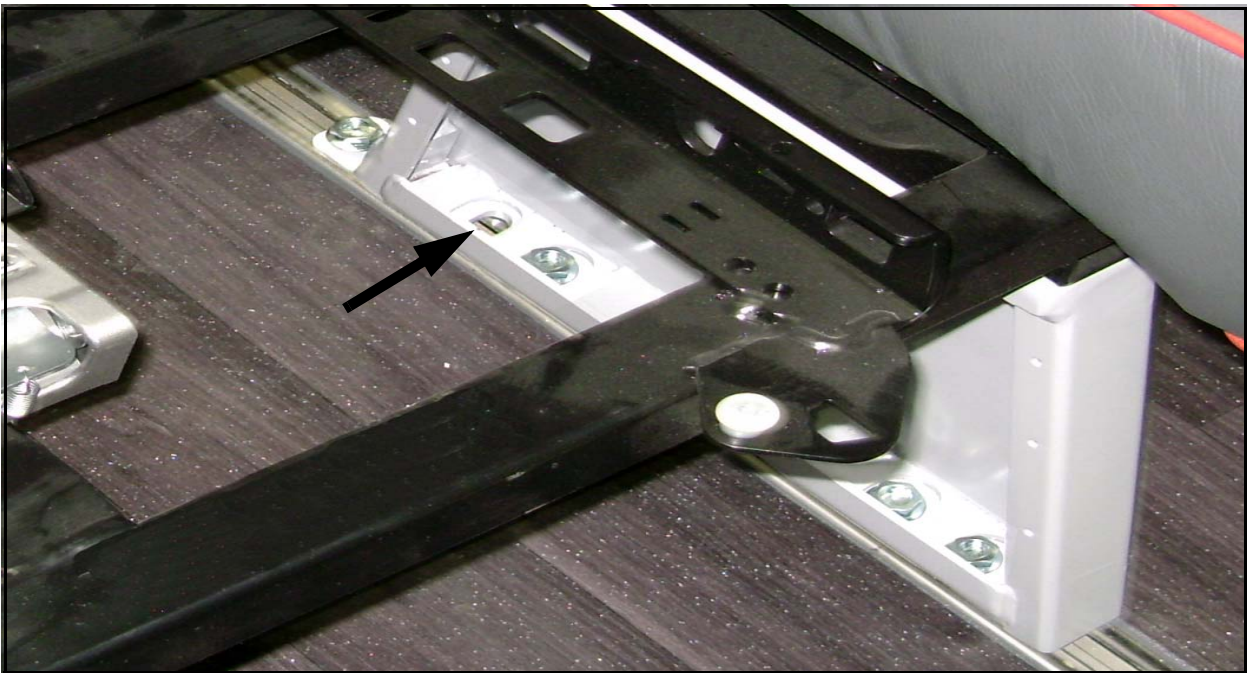

Figure 3. Incorrect installation of mounting hardware.
If the mounting hardware is installed incorrectly as shown in Figure 3, proceed to Step 7.
9. Locate the passenger seat mounting hardware on the seat base (refer to Figure 3). Remove and discard the nuts from the mounting t-bolts.
10. Using a marker, mark to identify the three (3) locations of the existing sidewall t-bolts.